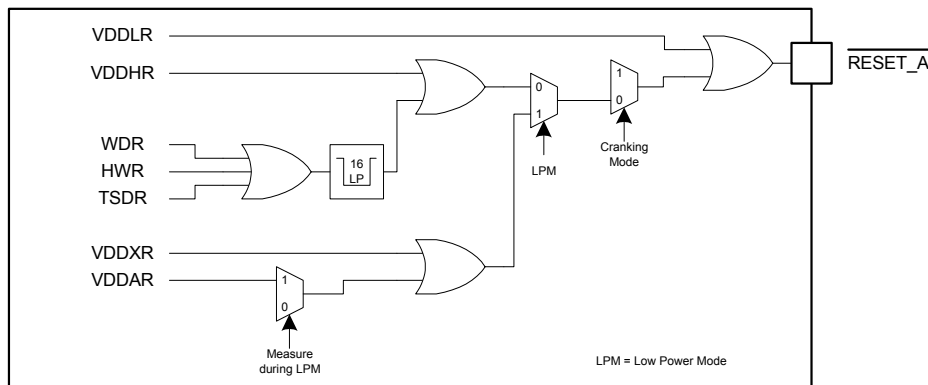

Figure 41. Analog Die Reset Implementation
- The Voltage at the LTO, VDDH, VDDX, or VDDA has dropped below its reset threshold level. The source will be indicated for the LTO by the LVRF + HVRF, for the VDDA by the AVRF, and for the VDDH by the HVRF bit. VDDX resets are not indicated via individual reset flags. See Figure 41 for dependencies.